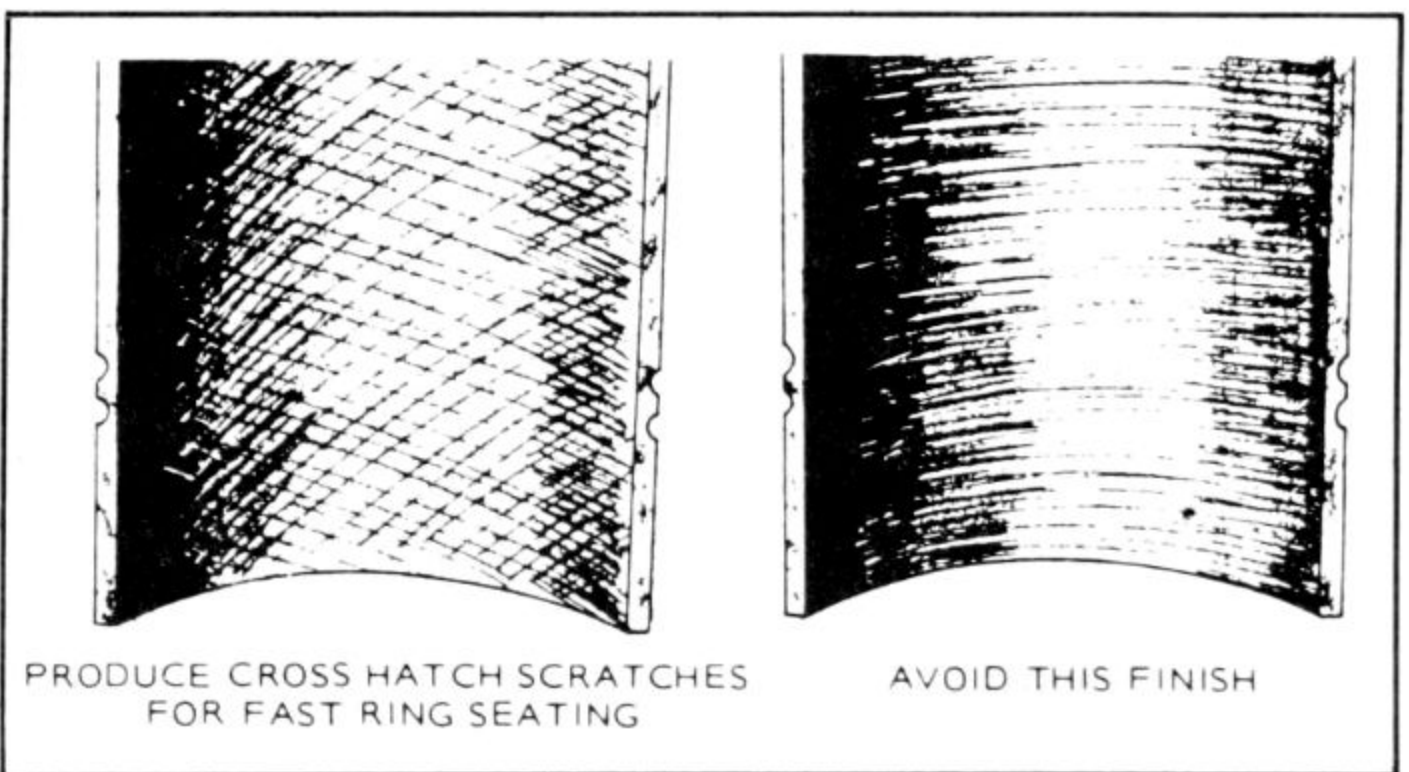

Fig. 6-49. Honed cylinder should consist of thousands of diamond-shaped points that retain oil and wear-in quickly. (Courtesy Onan.)
1. Chuck up the hone in a drill press or a 1/2-inch portable drill motor. A smaller drill will provide sufficient power, but most turn at excessively high speeds. Anything more than 400 rpm will produce the “threaded” surface (Fig. 6-49) and defeat the whole operation.